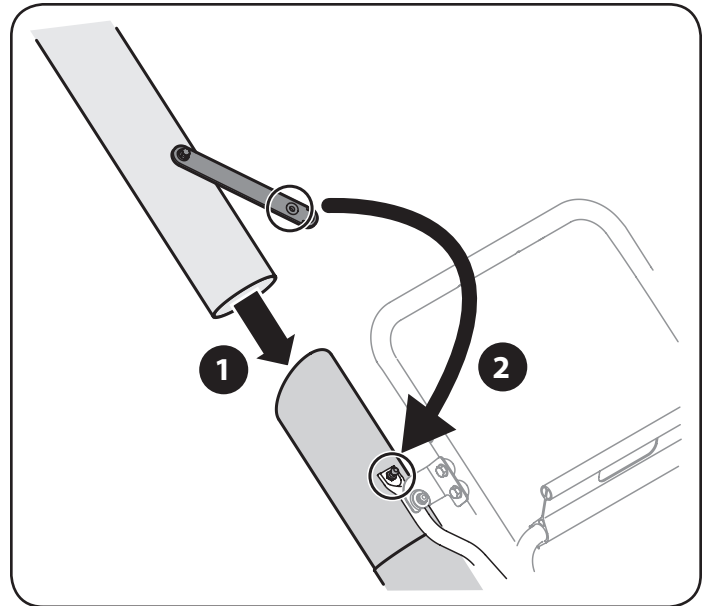

Figure 14
1. Place nozzle/hose vac lever in the top position on the nozzle to vacuum through nozzle. See Figure 14.
2. Secure strap on hose extension to pin on hose assembly. See Figure 14.